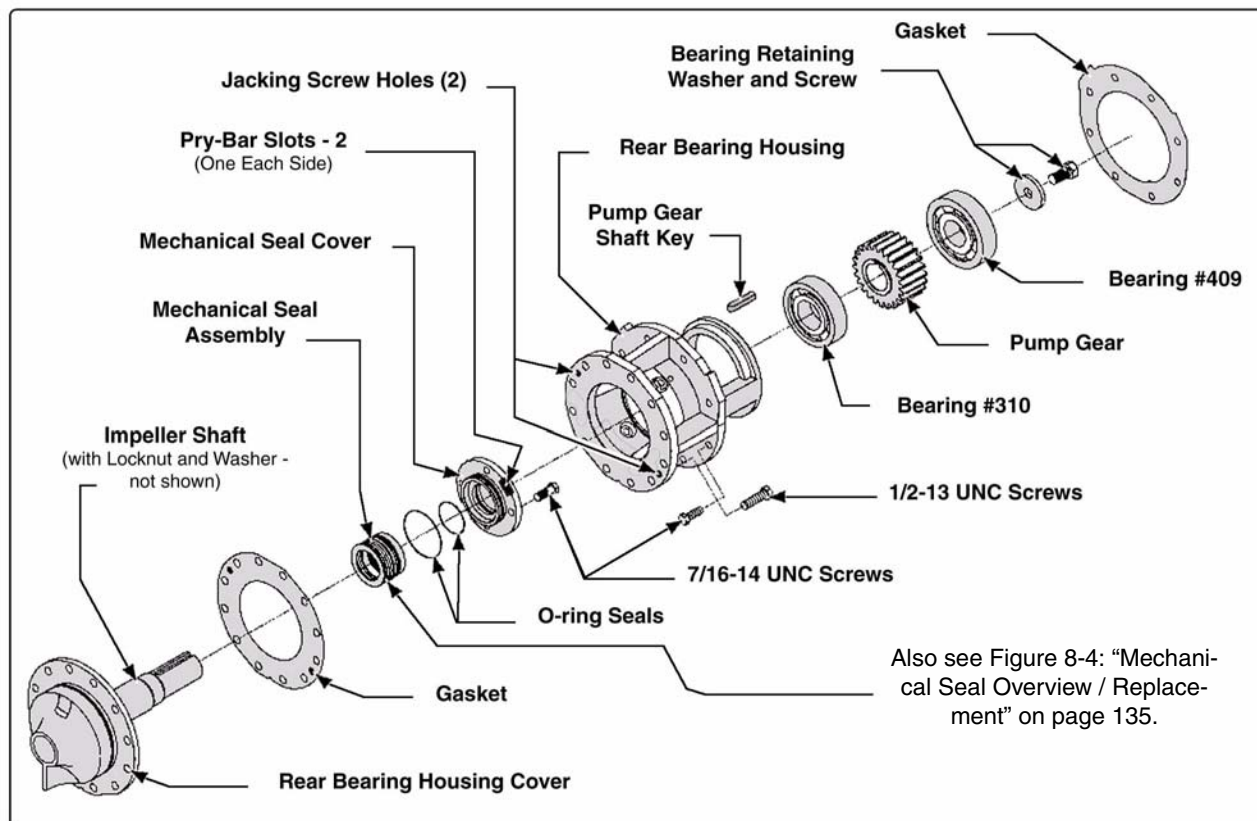
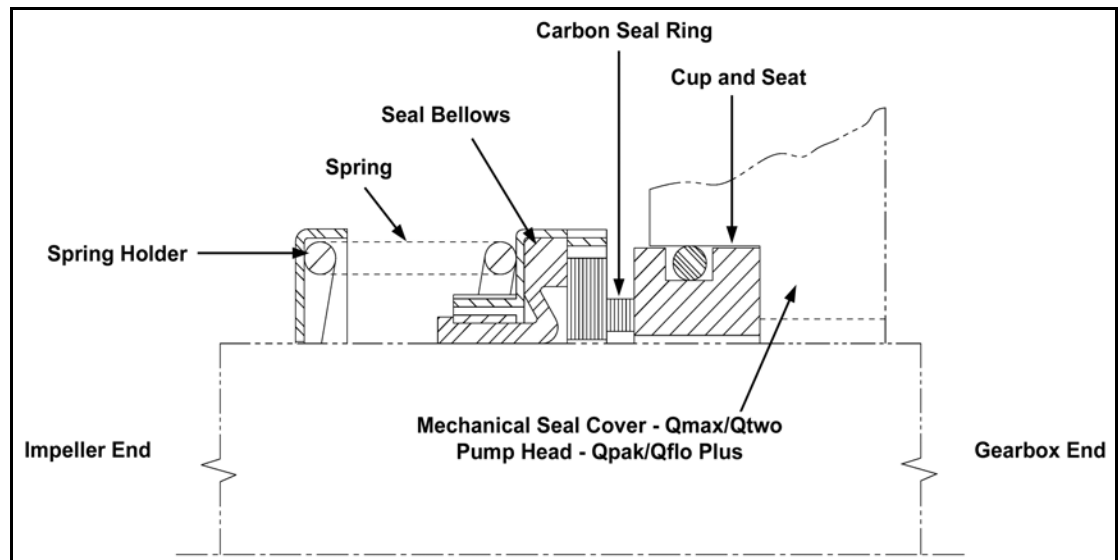

Figure 8-3: Qmax, Qmid, and Qtwo Mechanical Seal Assembly Overview
Figure 8-4: Mechanical Seal Overview / Replacement
(See Figure 8-3: “Qmax, Qmid, and Qtwo Mechanical Seal Assembly Overview.”) Also see Figure 8-4: “Mechanical Seal Overview / Replacement” on page 135.
11. If necessary, use pry bars in the slots provided to loosen the mechanical seal cover from the mechanical seal housing. (See Figure 8-3: “Qmax, Qmid, and Qtwo Mechanical Seal Assembly Overview” on page 134.)
12. Remove the old mechanical seal from the housing and impeller shaft. Two small hooks aid in the removal. (See Figure 8-4: “Mechanical Seal Overview / Replacement” on page 135.)
7. Without touching the carbon seal, slide the new mechanical seal bellows end over the impeller shaft making sure the spring is oriented towards the impeller. (See Figure 8-4: “Mechanical Seal Overview / Replacement” on page 135.)
11. Slide the mechanical seal cover over the impeller shaft making sure the seal remains seated in the bore of the cover. Make sure there is no oil or grease on the faces of the mechanical seal. (See Figure 8-3: “Qmax, Qmid, and Qtwo Mechanical Seal Assembly Overview” on page 134.)
20. Apply Loctite and insert twelve 1/2”-13 screws to secure the rear bearing housing to the seal housing. Evenly tighten the screws in a staggering (or criss-cross) fashion and torque to 65 ft.-lbs. (88 N-m). (See Figure 8-3: “Qmax, Qmid, and Qtwo Mechanical Seal Assembly Overview” on page 134.)
15. If necessary, use pry bars in the slots provided to loosen the mechanical seal cover from the mechanical seal housing. (See Figure 8-3: "Qmax, Qmid, and Qtwo Mechanical Seal Assembly Overview" on page 134.)
7. Without touching the carbon seal, slide the new mechanical seal bellows end over the impeller shaft making sure the spring is oriented towards the impeller. (See Figure 8-4: "Mechanical Seal Overview / Replacement" on page 135.)